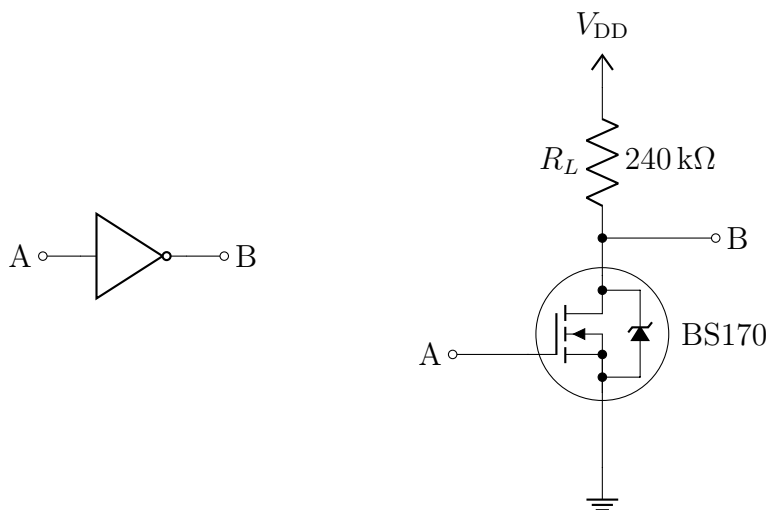

Figure 5: Inverter Gate Symbol and Discrete Diode Implementation
The Inverter circuit shown in Fig. 5 from the Discrete Digital Circuits laboratory is often referred to as a Buffer circuit. One of the benefits of using a MOSFET between stages of a system is that the MOSFET has a very high input resistance and a very low output resistance. A high input resistance means that not much current enters into the device; a low output resistance means that the device does not affect the loading of the system it is attached to. A MOSFET Buffer, as in Lab 6, has both of these advantages. Hence, in a system, it can “buffer” the stages from one other so that the stages act more or less independently of one another.
1. For the MOSFET Inverter shown in Fig. 5, devise a way to determine the input resistance and the output resistance of the circuit (note that the input and output resistances can be modeled as the Thévenin equivalent resistances at the input and output terminals, respectively).